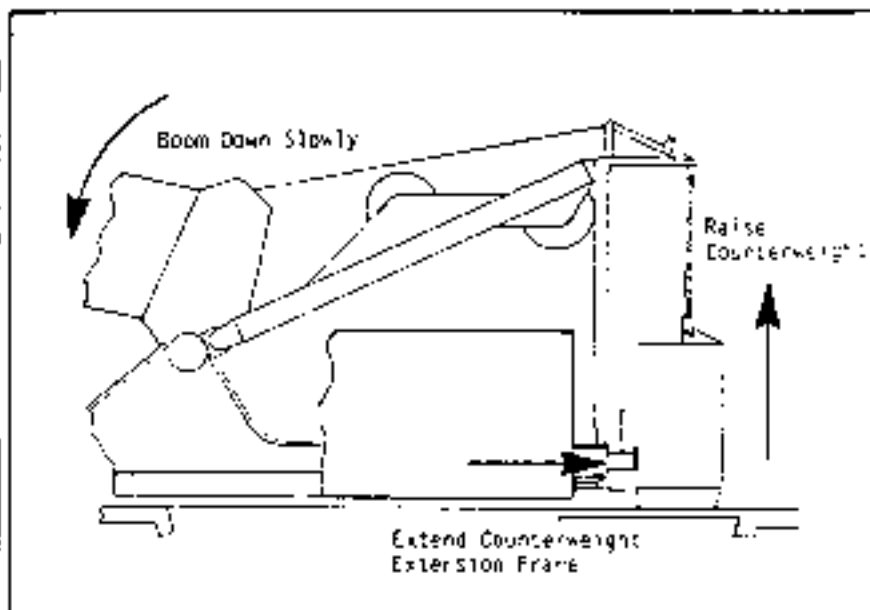

Fig. 1-37 Attaching Counterweight
- (e) Boom down until the counterweight clears the counterweight extension frame. Refer to Fig. 1-37.